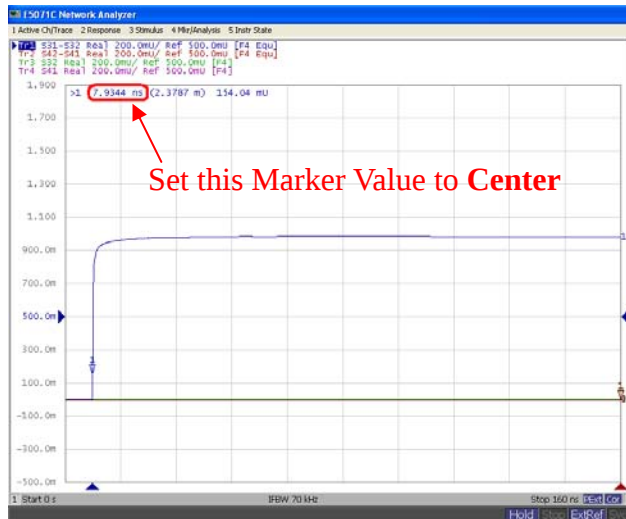

Figure 5.7.3 Marker Value to set Center
9. Press **Analysis** > **Transform** > Set **Center** to Marker Value. (Refer to Figure 5.7.3